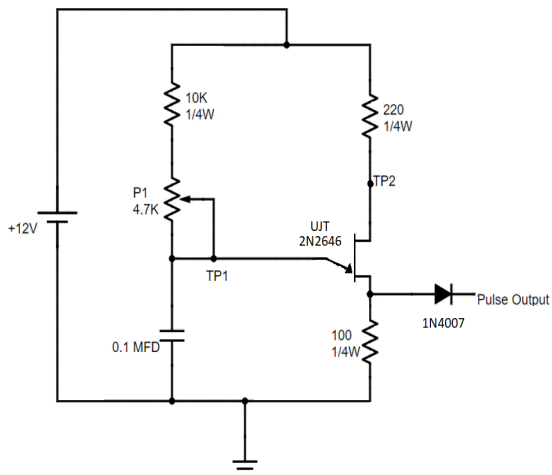

Figure 20
1. Connect the circuit, as shown in Figure 20, using patch cords.